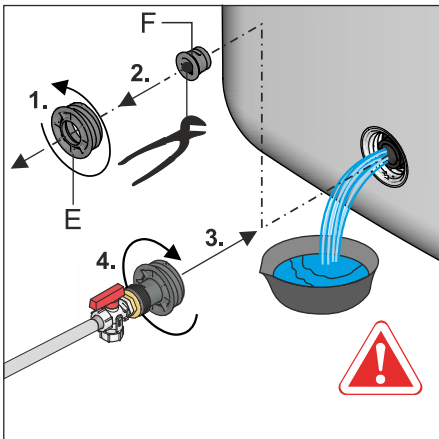

Fig. 9-4 Screwing the combined filling and draining filling connection into the filling and draining connection
- 3 Unscrew the threaded piece on the filling and draining connection (Fig. 9-4, item E), remove the sealing plug (Fig. 9-4, item F) and **immediately screw in** the pre-installed threaded insert with **combined filling and draining filling connection into** the filling and draining connection (Fig. 9-4) again.